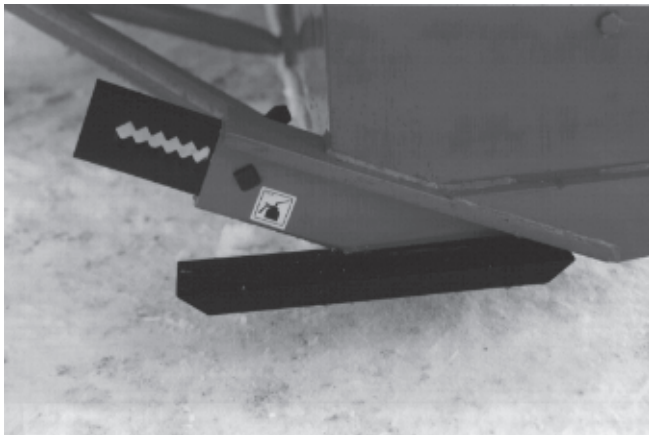

Figure 27
- 5) Adjust skid shoes according to ground conditions (Fig. 27).